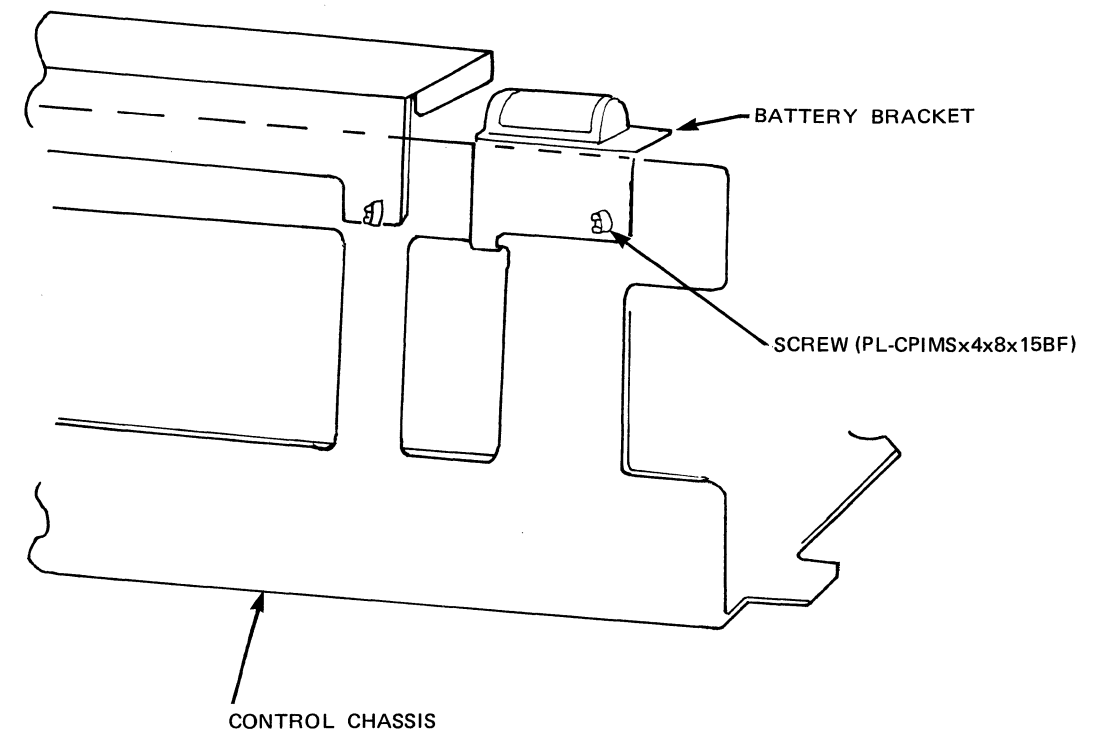

Figure 4-23 Battery Accessory Installation
- g. If you are also installing the optional battery accessory, install it at this time (see Figure 4-23), and connect the battery cable to CN43 on the G9JHX PCB.